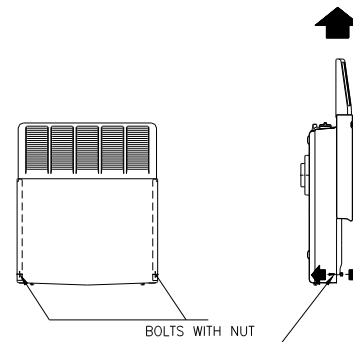

Figure 18
- Separate the front panel of the appliance by removing the two nuts in the bottom and sliding it up as shown in figure 18.